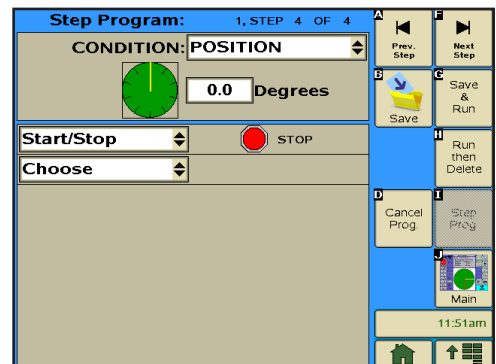

Figure 123-3
12. Program the position condition for this step. Refer to Figure 123-3.